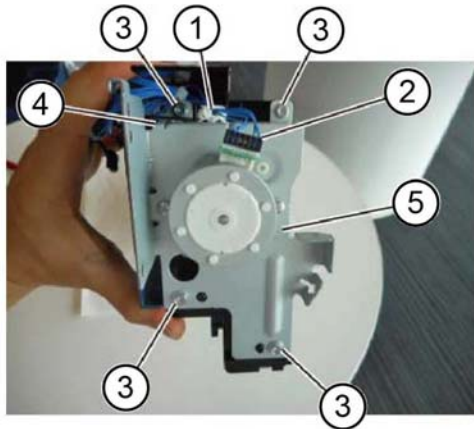

Figure 5 Motor removal
11. Remove the rear bracket and exit 2 motor, Figure 5:
- a. Release the clamp, then remove the harness (1).
- b. Disconnect the connector (2).
- c. Remove four screws (3).
- d. Disengage the hook (4),
- e. Remove the rear bracket and exit 2 motor (5).